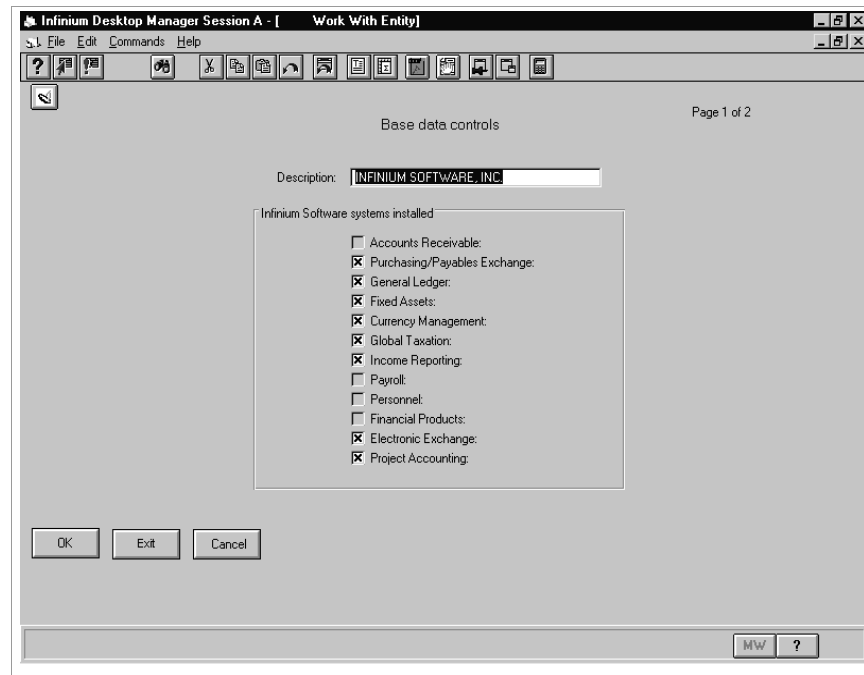

Figure 3-3: Work With Entity Base Data Controls screen 1
- Select *Base data controls*. Select **Change** or type **2** and press Enter. The system displays the screen shown in Figure 3-3.